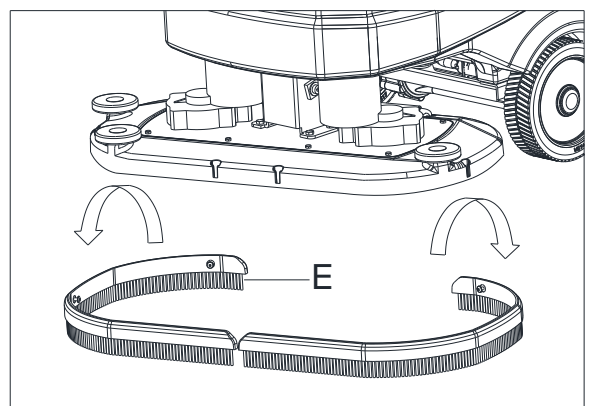

Figure 19
2. Remove the splash guard as (E, Figure 19) and cleaning it. (only for disc machine)